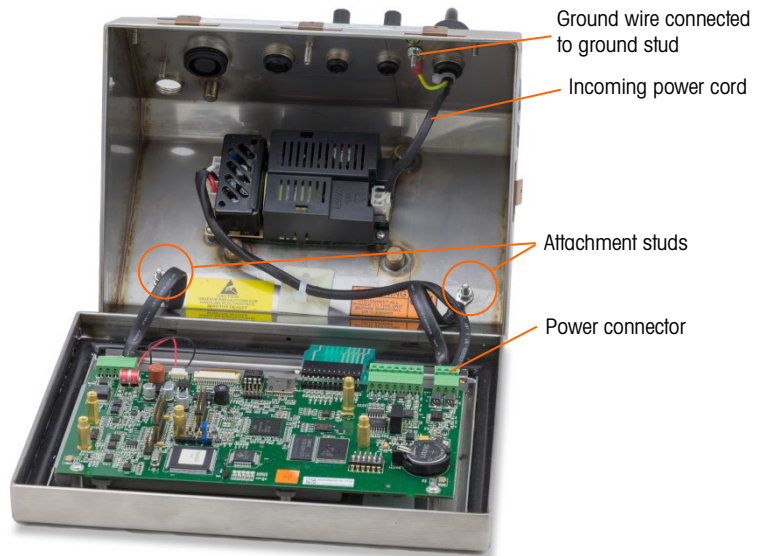

Figure A-10: Preparing to Detach Front Panel
1. Open the enclosure as detailed in the Opening the Enclosure section. For steps 3 to 5, refer to Figure A-10.